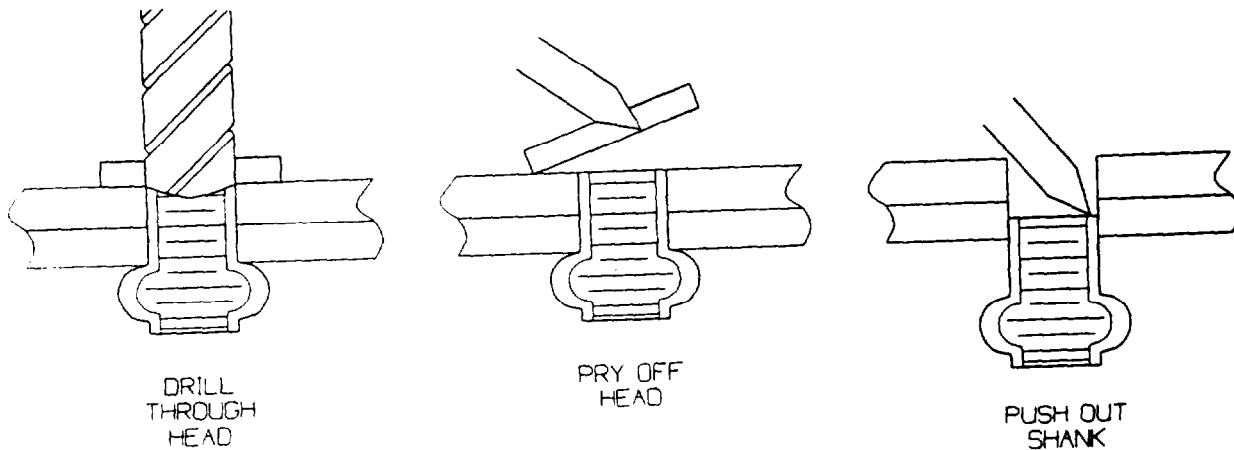

Figure 4-8 Rivnut Removal
(2) Removal (figure 4-8)
(a) Drill a .062 ( $\underline{+}$  .003,  $\underline{-}$  .001) diameter hole by 1.00 inch long on the stem of the spinning rivnut as shown in figure 4-8.